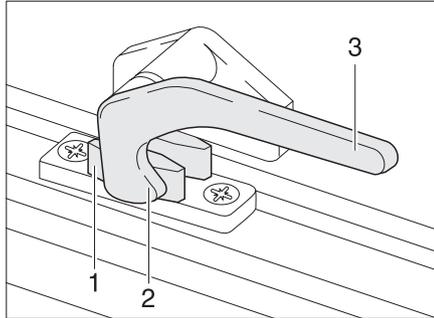
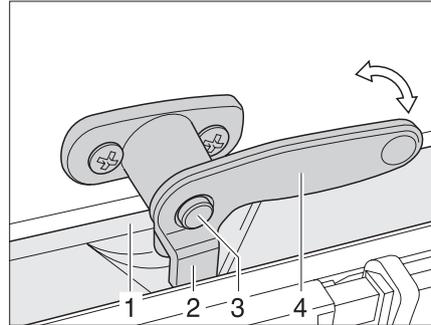

Fig. 18 Catch lever in "closed" position
Fig. 19 Catch lever with safety knob in "closed" position
- ▶ If it exists, press the safety knob (Fig. 19,3) down and hold it.
- ▶ Turn the catch lever (Fig. 18,3 or Fig. 19,4) a quarter turn towards the centre of the window.
- ▶ Turn the catch lever (Fig. 18,3 or Fig. 19,4) a quarter turn towards the centre of the window frame. The locking catch (Fig. 18,2 or Fig. 19,2) is located on the inside of the window catch (Fig. 18,1 or Fig. 19,1).
- "Firmly closed" (Fig. 18)